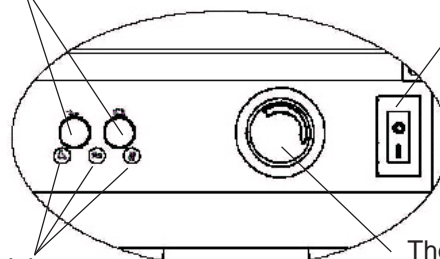

FIGURE 5
4. Press — (ON) button located on the Manual Selection Control for 3 seconds (FIGURE 5). All 3 indicators will flash.